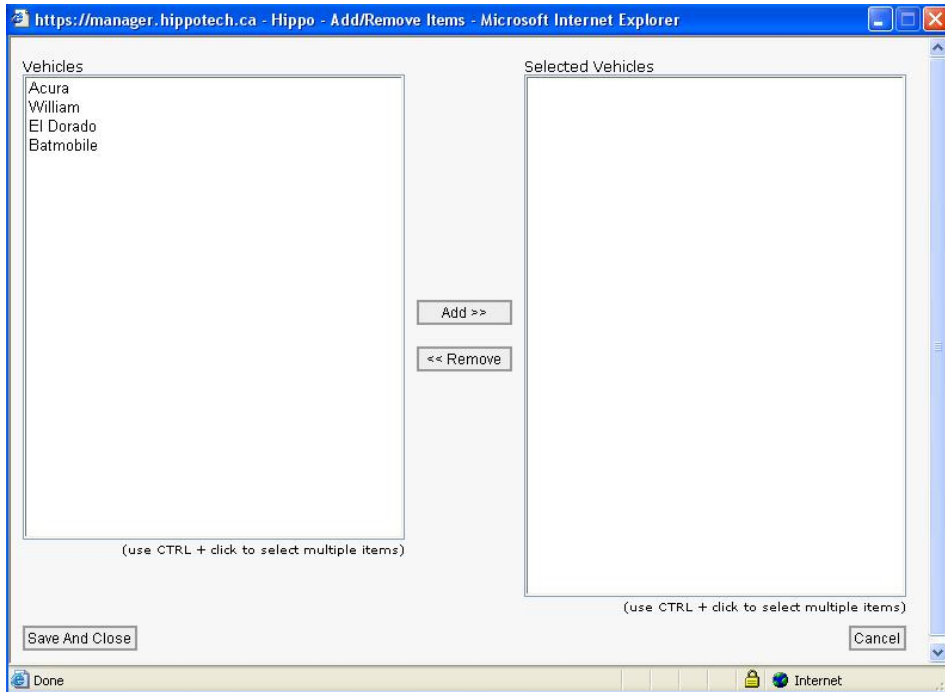

Figure 59: Add/Remove Vehicle
- g. Vehicles (click the **add/remove** to add or remove a vehicle) (See Figure 59)